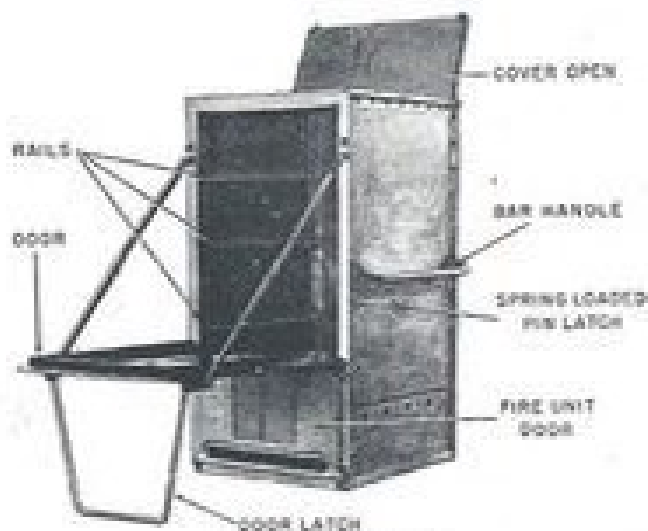
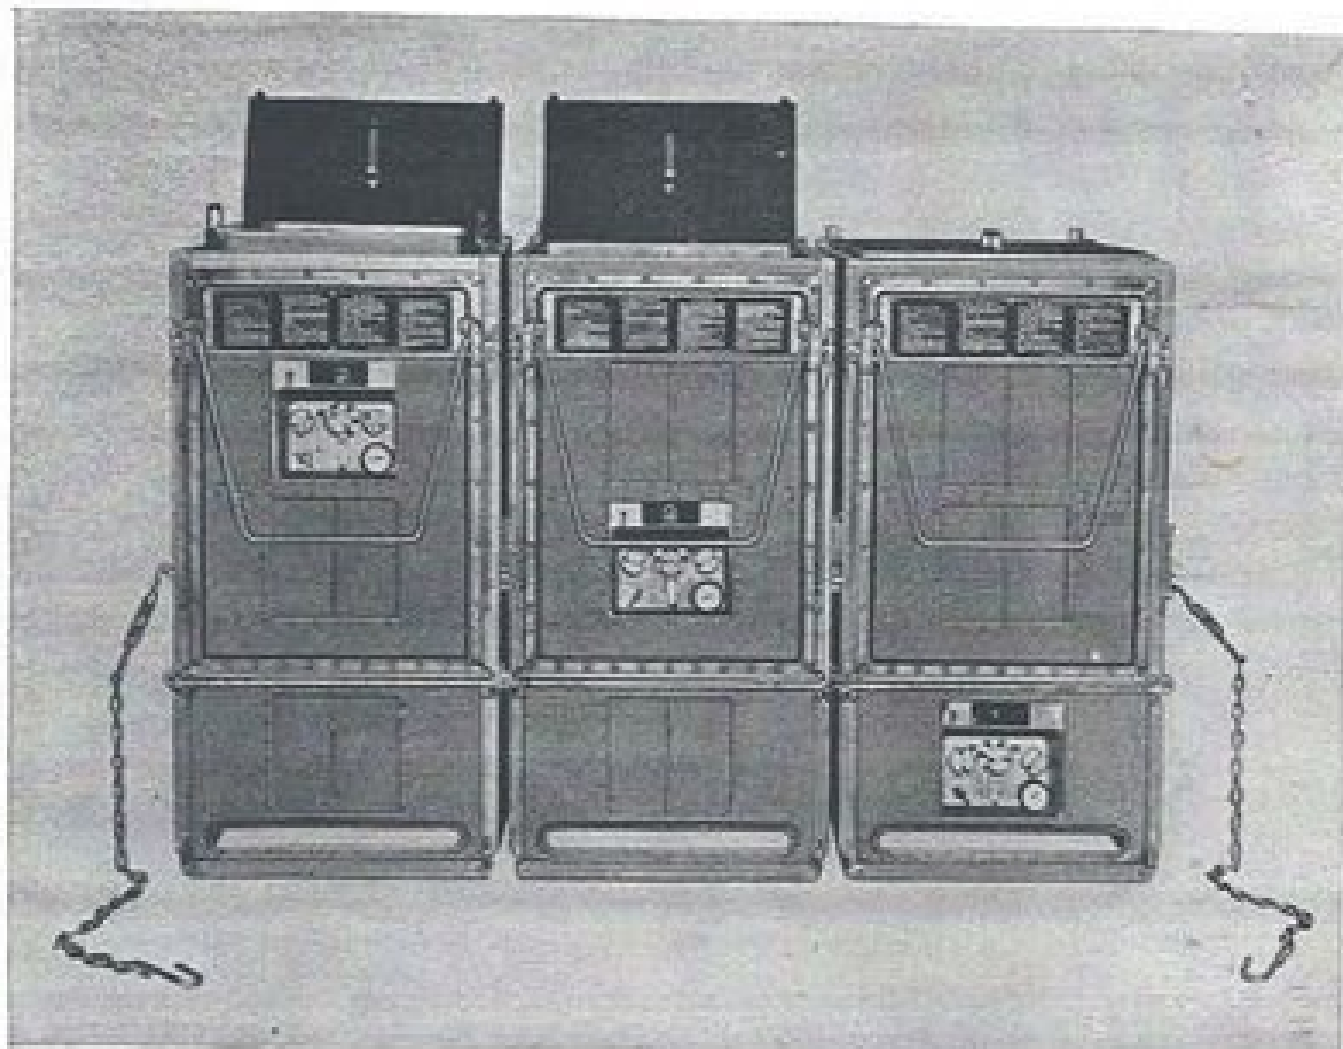

Figure 2. Cabinet.
Figure 4. Three-cabinet unit with four units in three possible positions.
d. CABINET. The cabinet (fig. 2) is made up of a framework of angle iron and cast sections with sheet metal panels. The top of the cabinet consists of a two-section lid which may be lifted up and folded to the back of the range. The front of the range consists of two doors which permit access to the burner and cooking compartments. The large front door is fitted with a latch which holds the door closed and serves as a support for the door when it is open. The door is fitted with rails to facilitate the placing of the heavy cooking utensils into the cabinet.
The interior of the cabinet is fitted with rails upon which may be placed the various cooking utensils or the burner unit. The doors to the cabinet contain three openings fitted with slides, in positions corresponding to the three possible positions of the fire unit within the cabinet. (See fig. 4.) A bar type handle (fig. 2) is fitted on each side of the range to assist in the movement of the range. A spring loaded pin latch (fig. 2) is provided on the right side of each cabinet to assist in connecting cabinets together to form multiple units by fitting into eyes on the left side of the next cabinet. Chains with turnbuckles
(fig. 4) are provided to assist in fastening the cabinet to the truck or railroad car body to prevent its movement in transit, while the range is in operation.